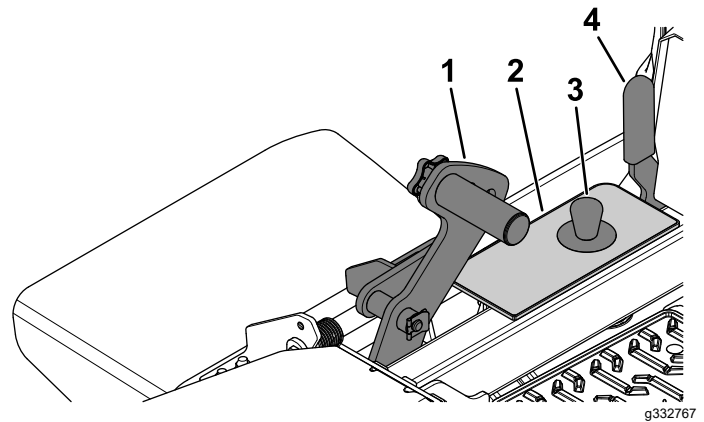

Figure 30
1. Push the deck-lift pedal fully forward to lock the mower deck in the TRANSPORT position (also the 127 mm/5 inches cutting height position) as shown in Figure 30.
2. To adjust, remove the pin from the height-of-cut bracket (Figure 30).
3. Select a hole in the height-of-cut bracket corresponding to the height of cut desired, and insert the pin (Figure 30).